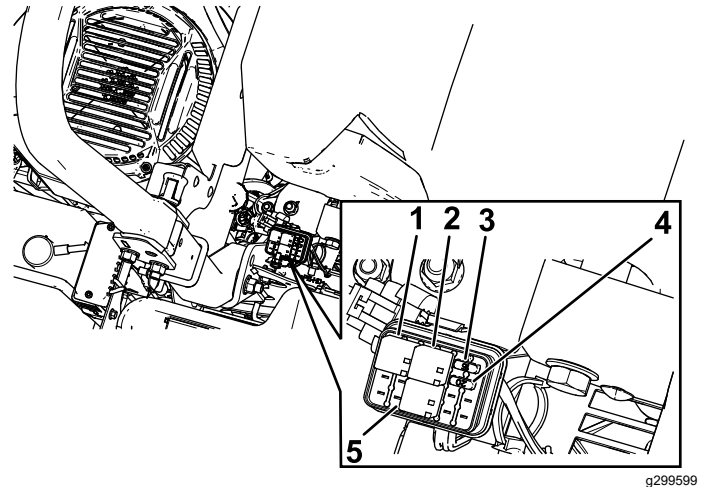

Figure 55
2. Install a new fuse (Figure 55).